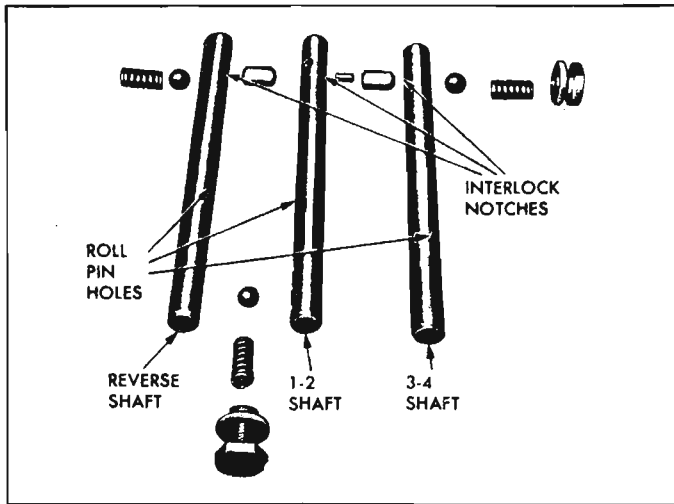

Fig. 6D-51—Shift Fork Shaft Identification
11. Lay out the shift fork shafts as illustrated in Figure 6D-51 to prevent mixing the shafts during installation. With the interlock notches aligned, the reverse shifter head shaft can be identified as its pin hole is approximately centered on the shaft. The 1-2 fork shaft is most easily recognized as it has two interlock notches in the shaft and these notches are connected by a drilled hole which houses the interlock pin. Finally, the 3-4 fork shaft roll pin hole is closest to the end of the shaft opposite the detent notched end.